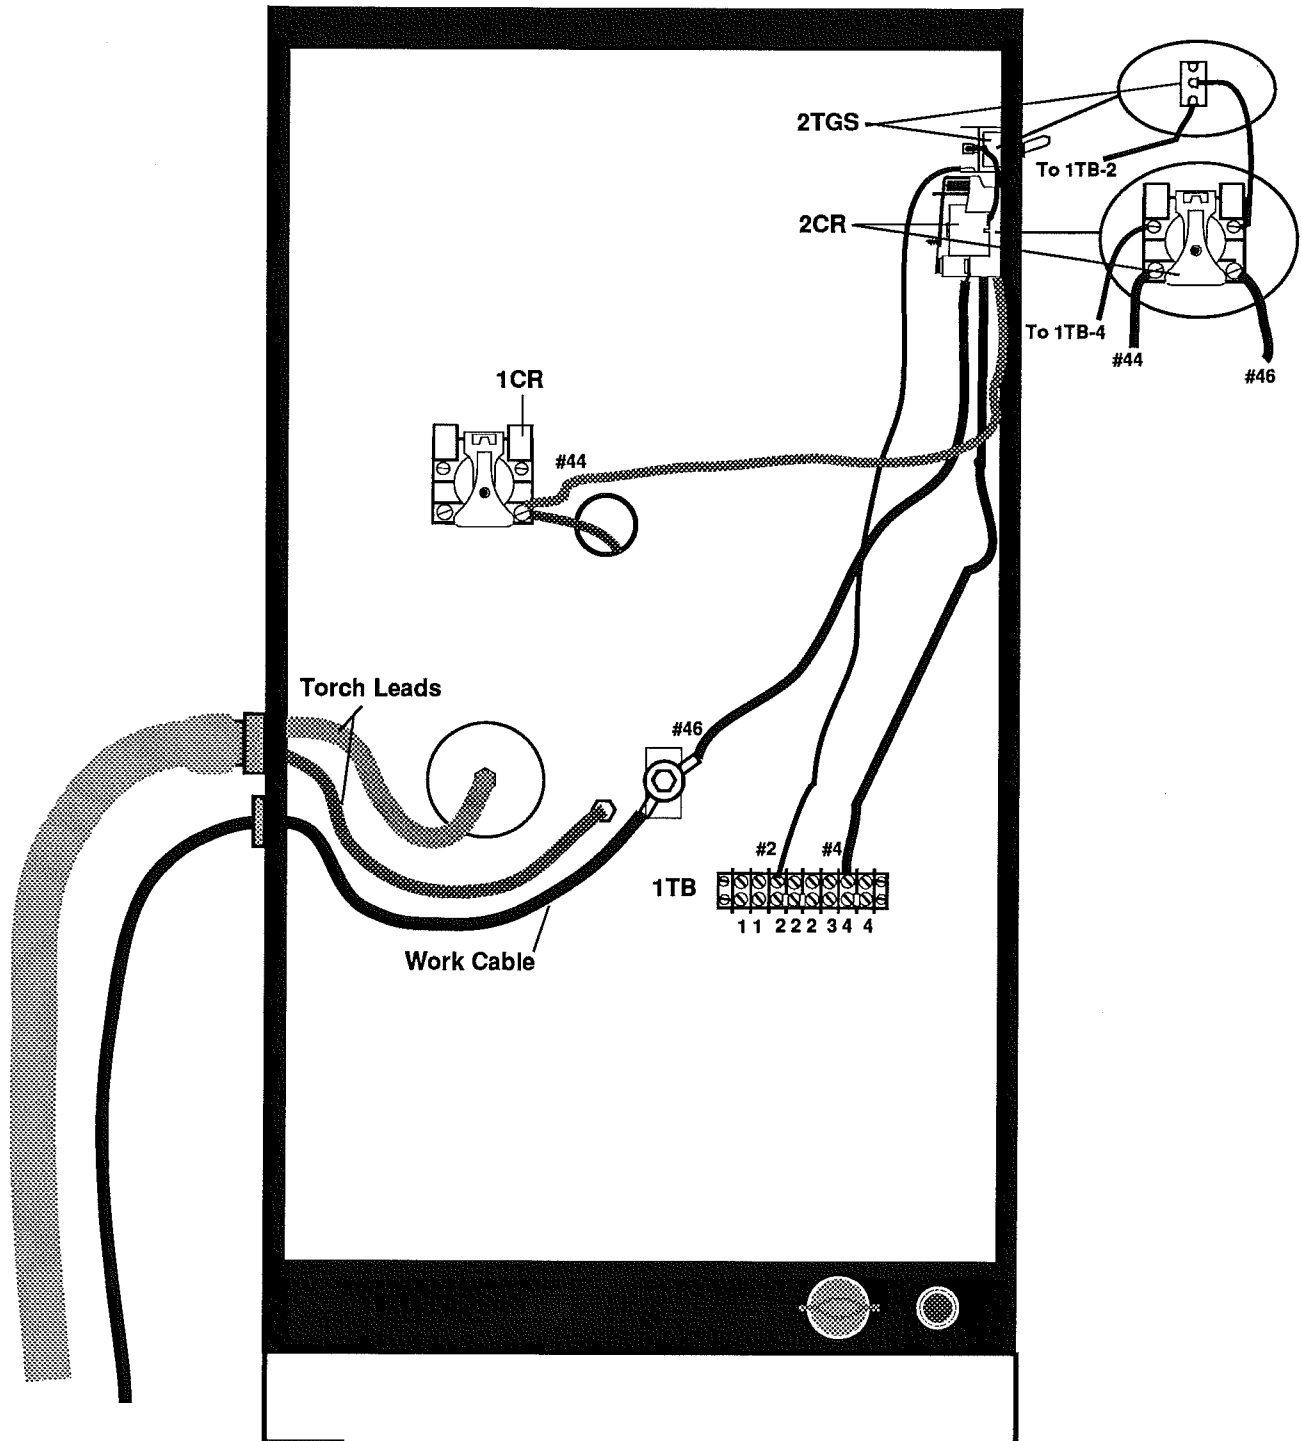

Figure 2 - HT40C Internal Connections
9. Attach the cable marked 44 from the new relay (2CR) to the existing relay (1CR) as shown in Figure 2.
10. Attach the cable marked 46 from the new relay (2CR) to the work cable location as shown in Figure 2.
11. Attach the wire marked 4 from the new relay (2CR) to terminal 4 of 1TB as shown in Figure 2.
12. Attach the wire from the bottom terminal of the switch marked 2 to terminal 2 of 1TB as indicated in Figure 2.
13. Attach the wire from the middle terminal of the switch to the new relay (2CR) as indicated in Figure 2.